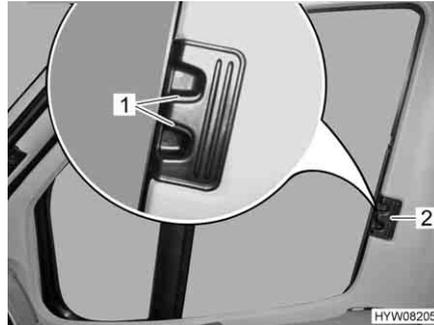

Fig. 66 Roman shade for driver's and passenger's window
- Press the release handles (Fig. 66,1) and hold them down.
- Using the handle (Fig. 66,2), draw the Roman shades for the driver's and passenger's window to the other side of the window and secure them to the magnetic strips.
- Use handle (Fig. 66,2) to push in the Roman shades for the driver's and passenger's window as far as possible.
- Let go of the release handles (Fig. 66,1) and let them engage.